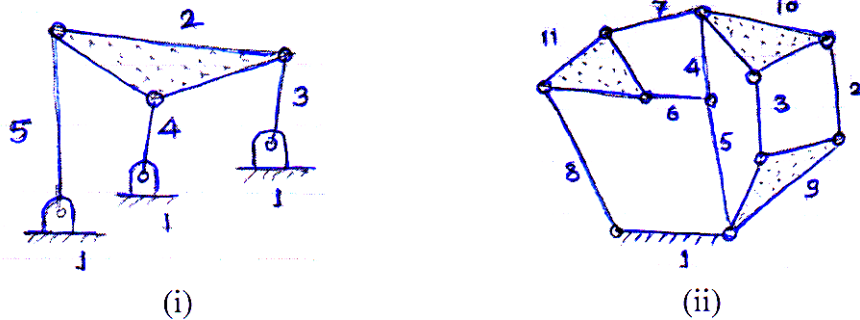

Fig.1(a)
- Q1) a)** Explain the term 'Mobility of a mechanism'. Find the mobility of the linkages shown in Fig. 1 (a). Based on this, state whether the linkages shown are mechanisms with 1 DOF. If not, make suitable changes. The number of links should not be varied by more than 1. [5]